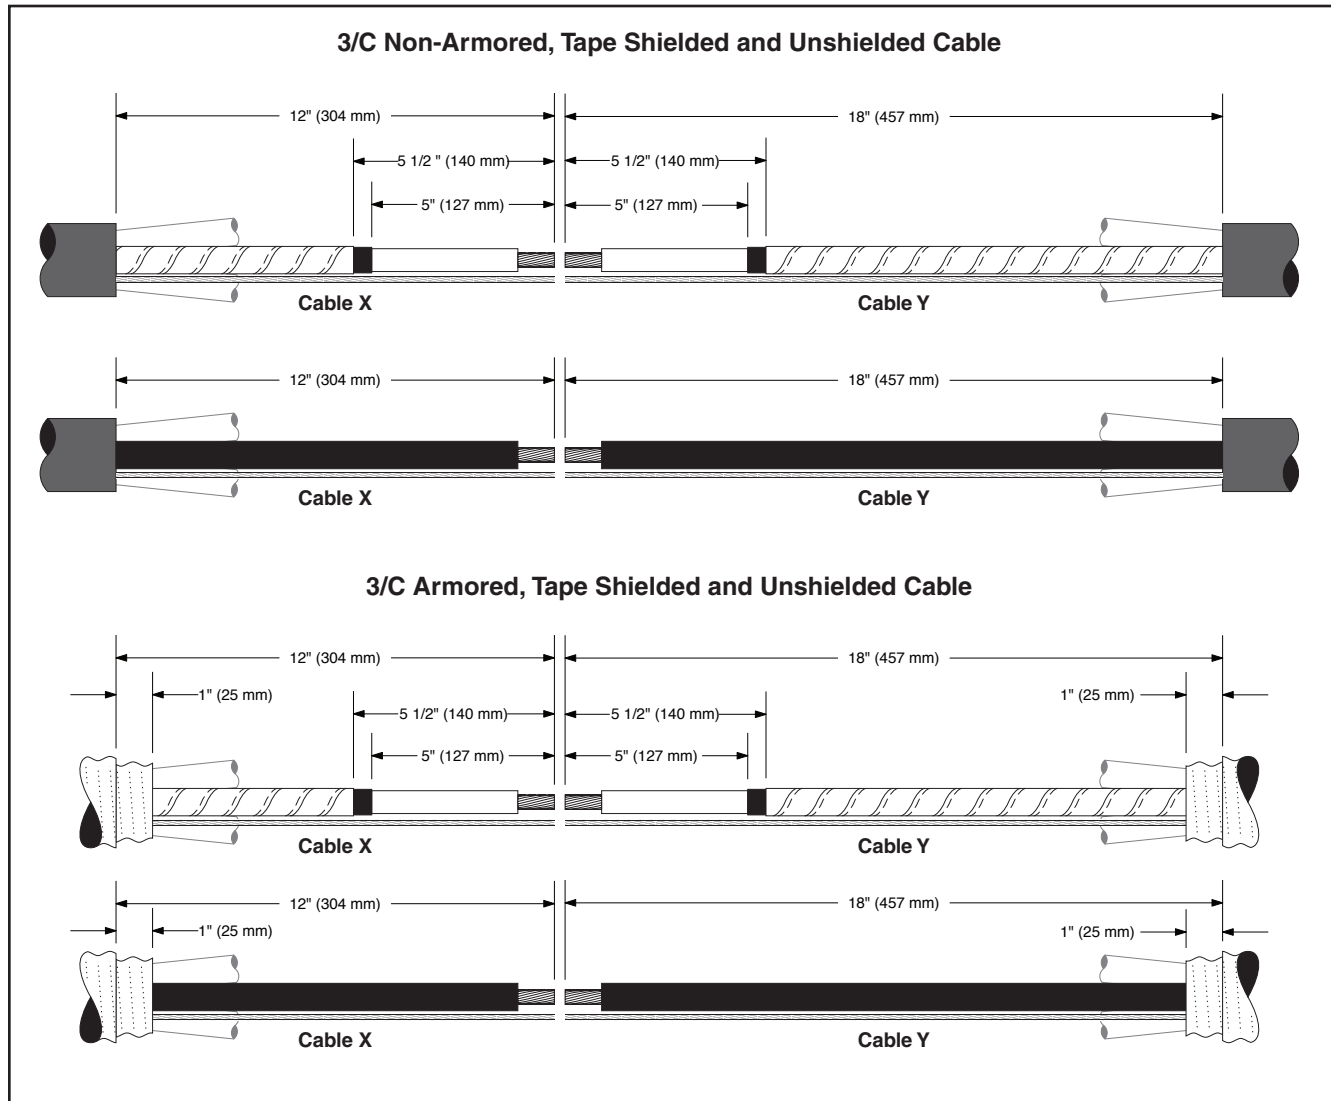

Figure 1
- a. Remove cable jacket/armor as shown in (Figure 1).